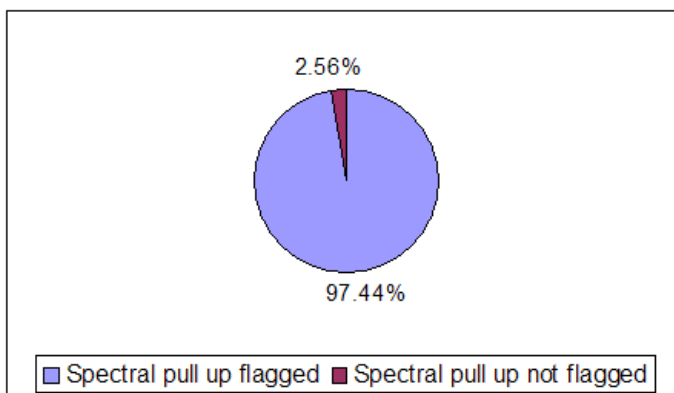

Figure 5 Results for the spectral pull-up PQVs flagged
Seventy-eight (78) spectral pull-up peaks were identified. As shown in Figure 5 on page 54, 97.44% (76) of these pull-up peaks were correctly flagged by GeneMapper *ID* Software v3.2. The remaining 2.56% (2) of pull-up peaks that were not flagged were produced by off-scale data. If a spectral pull-up peak is caused by an off-scale allele peak, the spectral pull-up flag is not triggered for that peak. This is because the ratio of pull-up to off-scale peaks cannot be calculated (since the peak height for off-scale data cannot be determined).